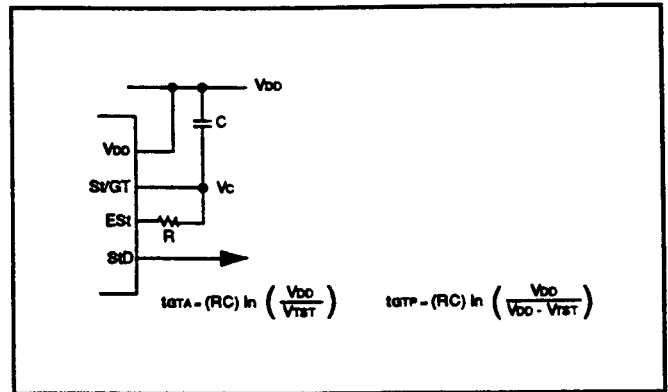

Figure 3 Basic Steering Circuit
Before a decoded tone pair is registered, the receiver checks for a valid signal duration (referred to as "character-recognition-condition"). This check is performed by an external RC time constant driven by ESt. A logic high on ESt causes VC (see Figure 3) to rise as the capacitor discharges. Provided that signal condition is maintained (ESt remains high) for the validation period (GTF), VC reaches the threshold (VTSt) of the steering logic to register the tone pair, thus latching its corresponding 4-bit code (see Table 5) into the output latch. At this point, the GT output is activated and drives VC to VDD. GT continues to drive high as long as ESt remains high. Finally, after a short delay to allow the output latch to settle, the "delayed steering" output flag (StD) goes high, signaling that a received tone pair has been registered. The contents of the output latch are made available on the 4-bit output bus by raising the three-state control input (OE) to a logic high. The steering circuit works in reverse to validate the interdigit pause between signals. Thus, as well as rejecting signals too short to be considered valid, the receiver will tolerate signal interruptions (dropouts) too short to be considered a valid
Where independent selection of receive and pause are not required, the simple steering circuit of Figure 3 is applicable. Component values are chosen according to the formula: